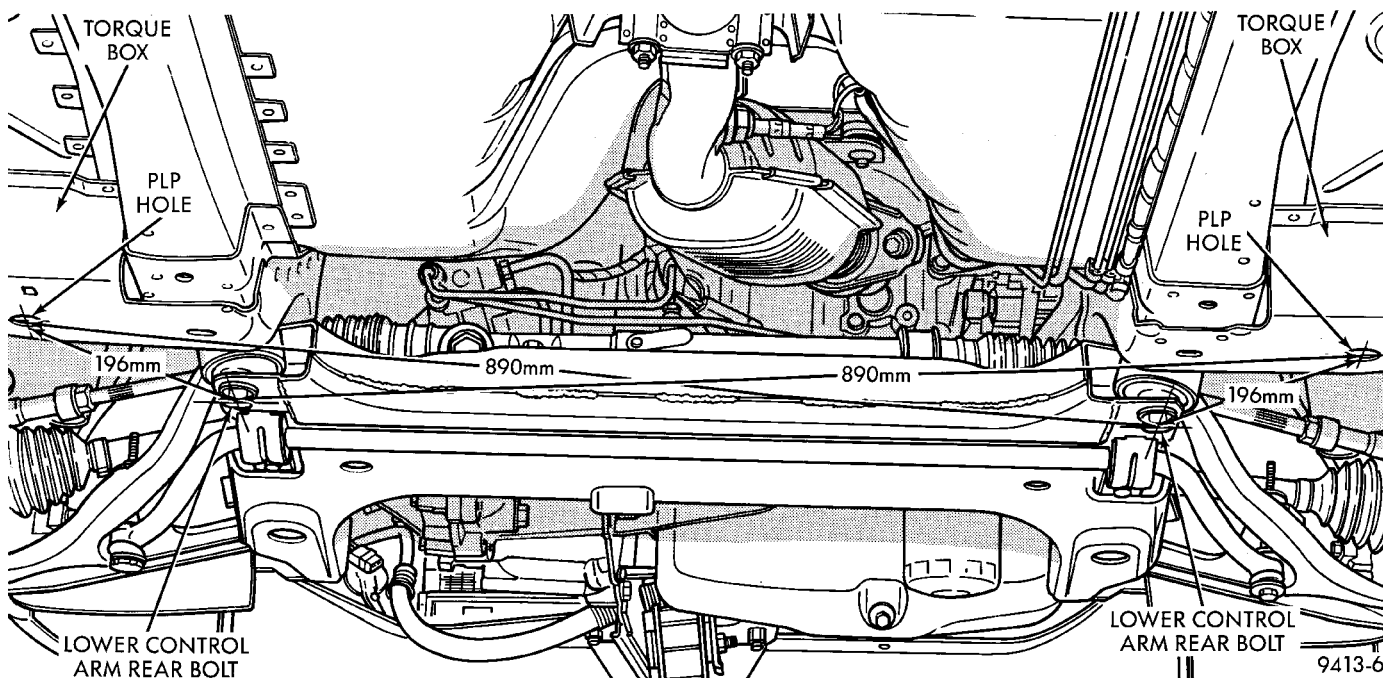

Fig. 2 Forward Frame and Suspension Crossmember
- (3) Place steering gear in position on crossmember.
- (4) Install bolts to hold steering gear to crossmember.
- (5) Position lifting device under the crossmember.
- (6) Lift crossmember to frame rails.
- (7) Engage bolts to hold crossmember rear mounts into cage nuts in the frame torque boxes. Do not tighten bolts.
- (8) Install bolts to hold crossmember to frame rails above lower control arms.
- (9) Lower and remove lifting device.
- (10) Align crossmember to index marks. Verify that crossmember is at the specified dimensions from the PLPs (Fig. 2).
- (11) Tighten bolts to hold suspension crossmember to frame rails and torque boxes.
- (12) Insert ball joints into spindles.
- (13) Install pinch bolts to hold front ball joints to spindles.
- (14) Install front wheels on vehicle.
- (15) Lower vehicle and verify front suspension alignment. If camber, caster settings and wheel stagger is not within specifications, loosen and reposition crossmember to bring suspension within specifications. Refer to Group 2, Front Suspension and Drive-shaft for additional information.